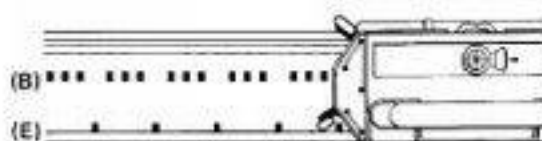

Fig.70
- Set both SCLs in "KNIT" position and at the same time set both RCLs as "Position 2". (Fig.70)
Move carriage across needles from right to left. (Fig.70)